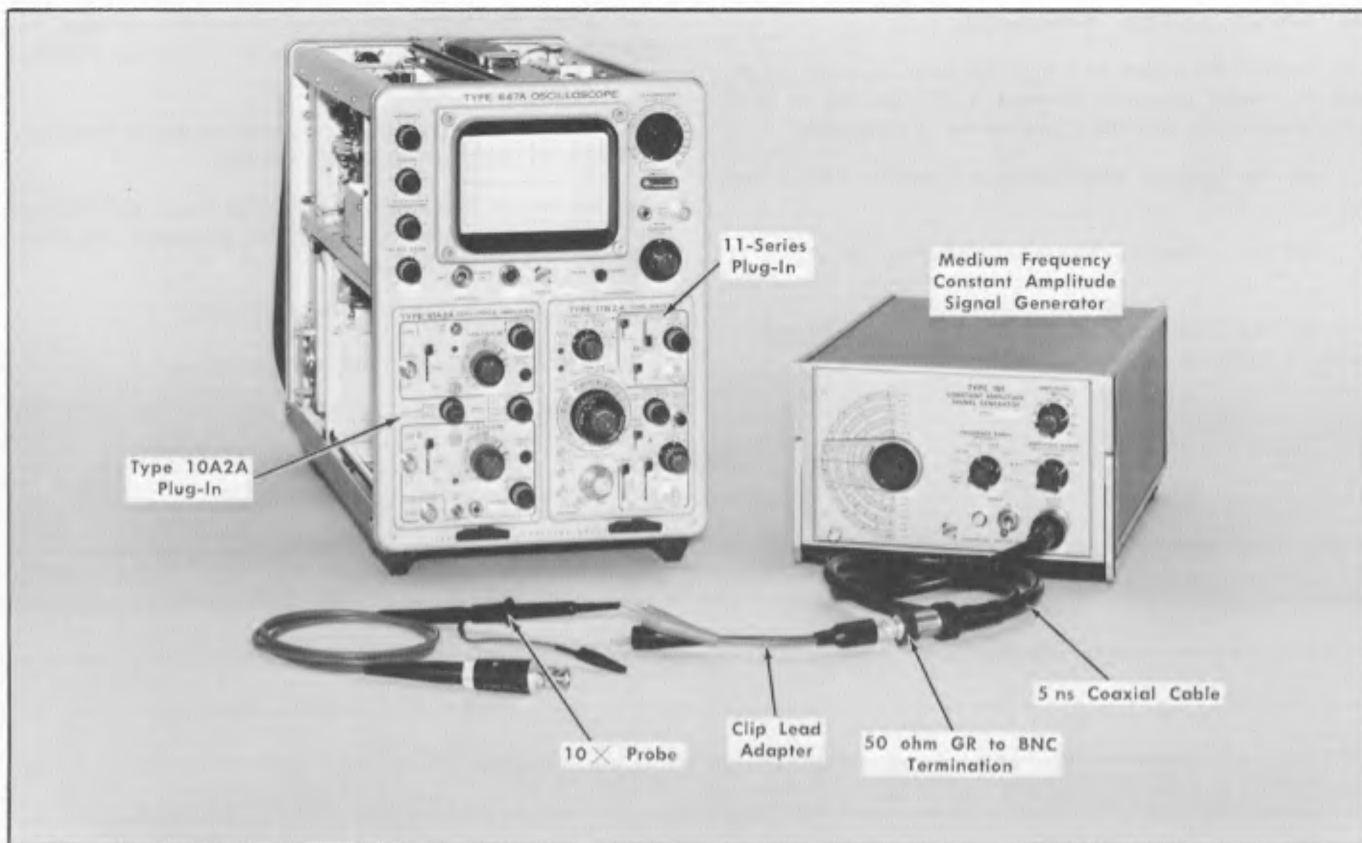

Fig. 6-23. Initial test equipment setup for steps 21 through 24.
- Test equipment setup is shown in Fig. 6-23.